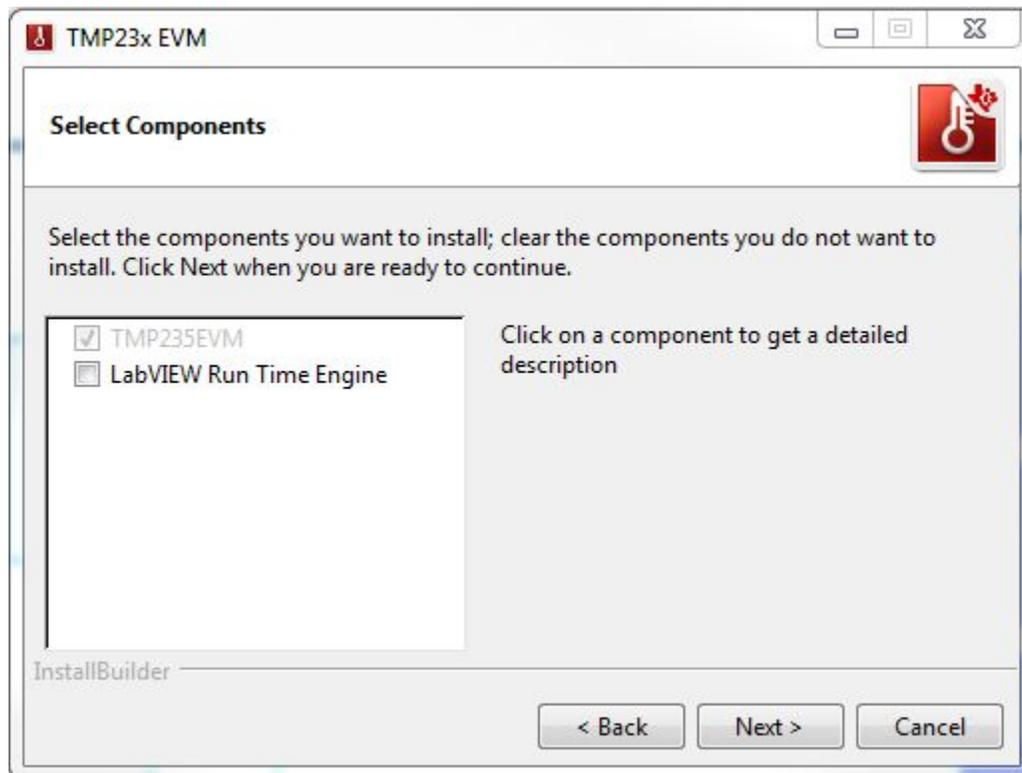

Figure 10. TMP23x EVM Select Components
- If it is the first installation, ensure the *LabVIEW Run Time Engine* (LVRTE) is selected in Figure 10. TMP23xEVM software requires LabVIEW 2016 runtime engine for proper operation.